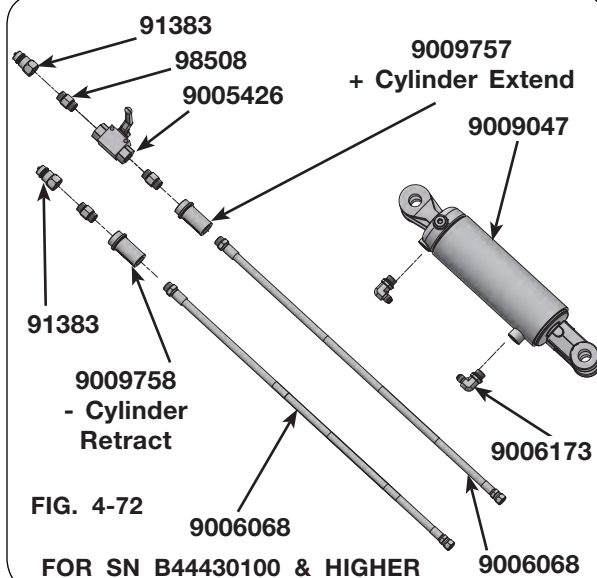

FIG. 4-72
11. On new hydraulic assembly (294143B), attach hoses (9006068) and fittings to cylinder (9009047) as shown in FIG. 4-72 and 4-73. The valve needs to be assembled to the hose on the base end of the cylinder. Assemble the fittings on the cylinder so they face each other, then store the hydraulic hoses on the hose caddy.